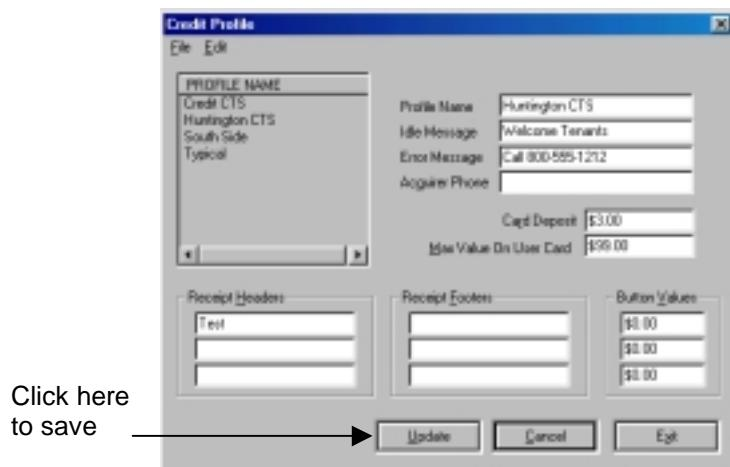

Figure 10.5 Completing/Saving the Credit CTS Profile
- Verify that all data has been entered correctly; click the Update button to save the new profile (Figure 10.5).
5. Verify that the new information is correct, and click the Update button to save changes (Figure 10.5).